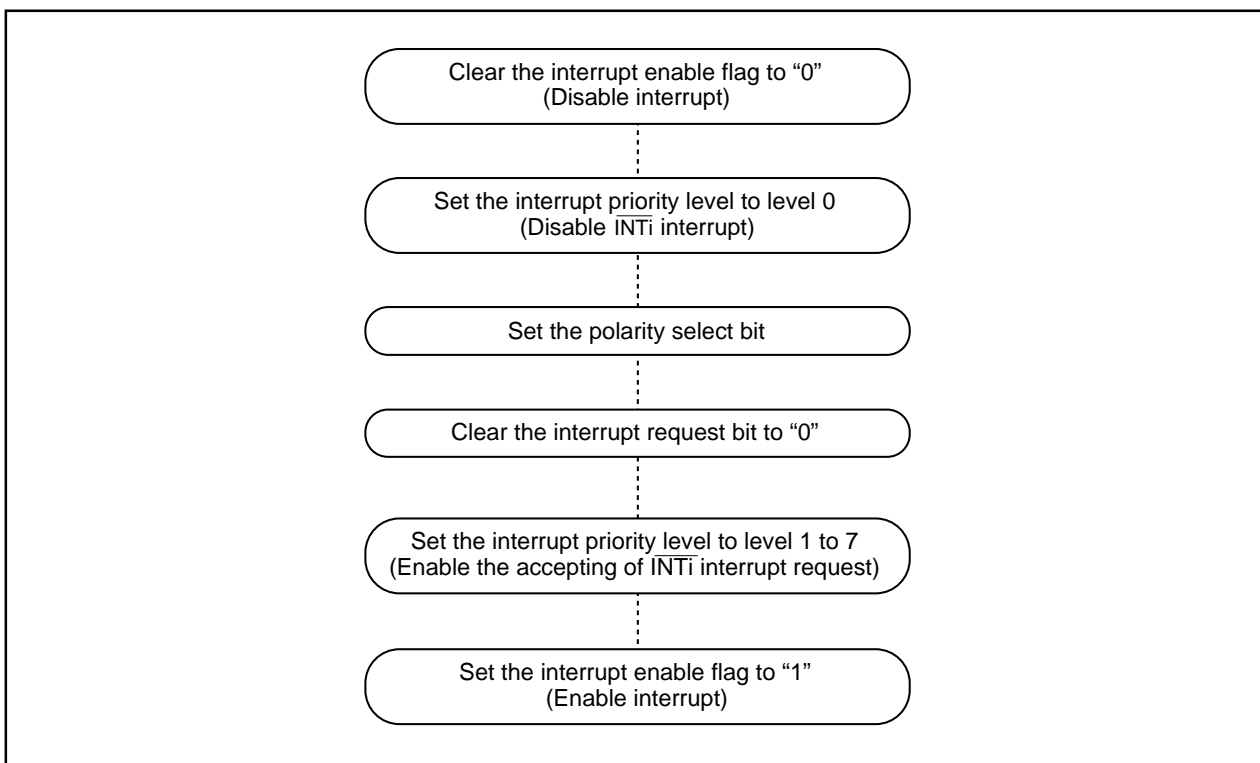

Figure 4.7.1. Switching condition of \overline{INT} interrupt request
(2) Setting the stack pointer
(3) External interrupt
- When the polarity of the $\overline{INT_0}$ to $\overline{INT_5}$ pins is changed, the interrupt request bit is sometimes set to "1". After changing the polarity, set the interrupt request bit to "0". Figure 4.7.1 shows the procedure for changing the \overline{INT} interrupt generate factor.